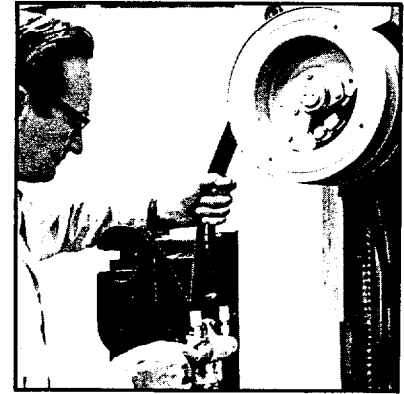

Fig. 8
13. To reassemble your Cascade hose reel reverse the above steps. Refer to parts illustrations in this manual for further assistance. (NOTE: Be sure spring retainer is facing in proper direction to engage spring, See Figure 8.)